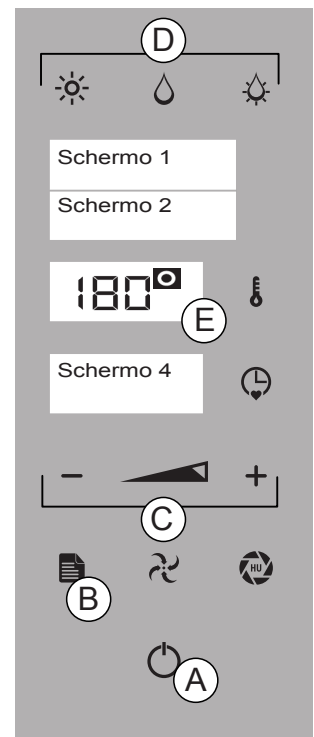

Fig.1
**GAS BURNER ON /°C flashing-GAS BURNER OFF /°C fixed (Fig. 1/E- Screen 3)**
Press the "ENTER" button (Fig 1/A) and proceed to manual cooking (see 6.1) or press the "MENU" key (Fig 1/B) to activate the main menu (Fig 6.1/B). Use the "MINUS" and "PLUS" keys to select the desired function (Fig 1/C). Press "ENTER" to confirm.
1. In main menu mode, press the "MINUS" or "PLUS" (Fig. 1/C) to the "OFF" function (Display 1). Press "ENTER" (FIG 1/A) TO CONFIRM.
2. In function mode, press the "ENTER" button to stop the operation, press "MENU" button (Fig. 1/B) and press the "MINUS" button (Fig. 1/C) to display the "OFF" function (Display 1). Press "ENTER" button (Fig. 1/A-see 3.3 Description of operating modes).
To set the date and time, press for 3 seconds the "TIME" and "TEMPERATURE" keys (Fig 1/D+E)
Use the "MINUS" and "PLUS" keys (Fig 1/B) select the current year and press the "ENTER" KEY (FIG 1/A) TO CONFIRM.